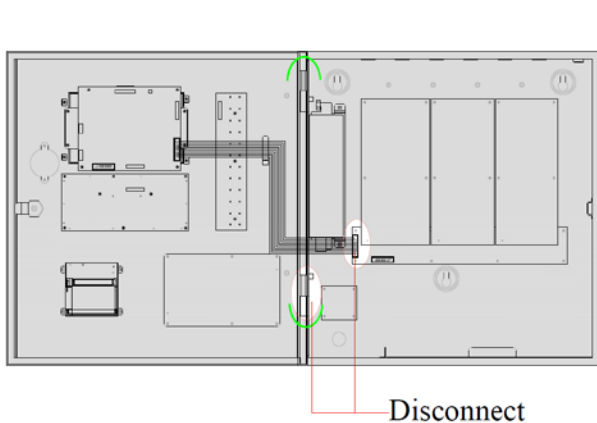

Figure 4: Cable disconnection
- Open the panel. Locate and unplug the 20 pin flat ribbon cable between the main board and the power management board. Disconnect the enclosure grounding [Fig. 4].